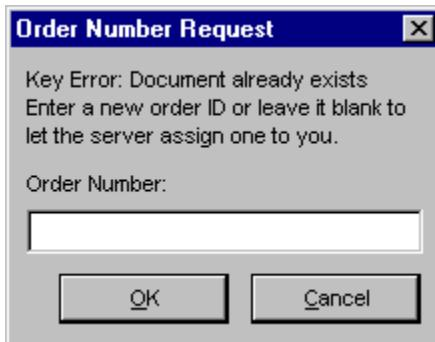

Figure 2-27. Order Number Request Dialog Box
- ◆ If it finds a duplicate ID, it will display a message (*Figure 2-27*) so that you can enter a new order ID or accept a system-assigned ID.